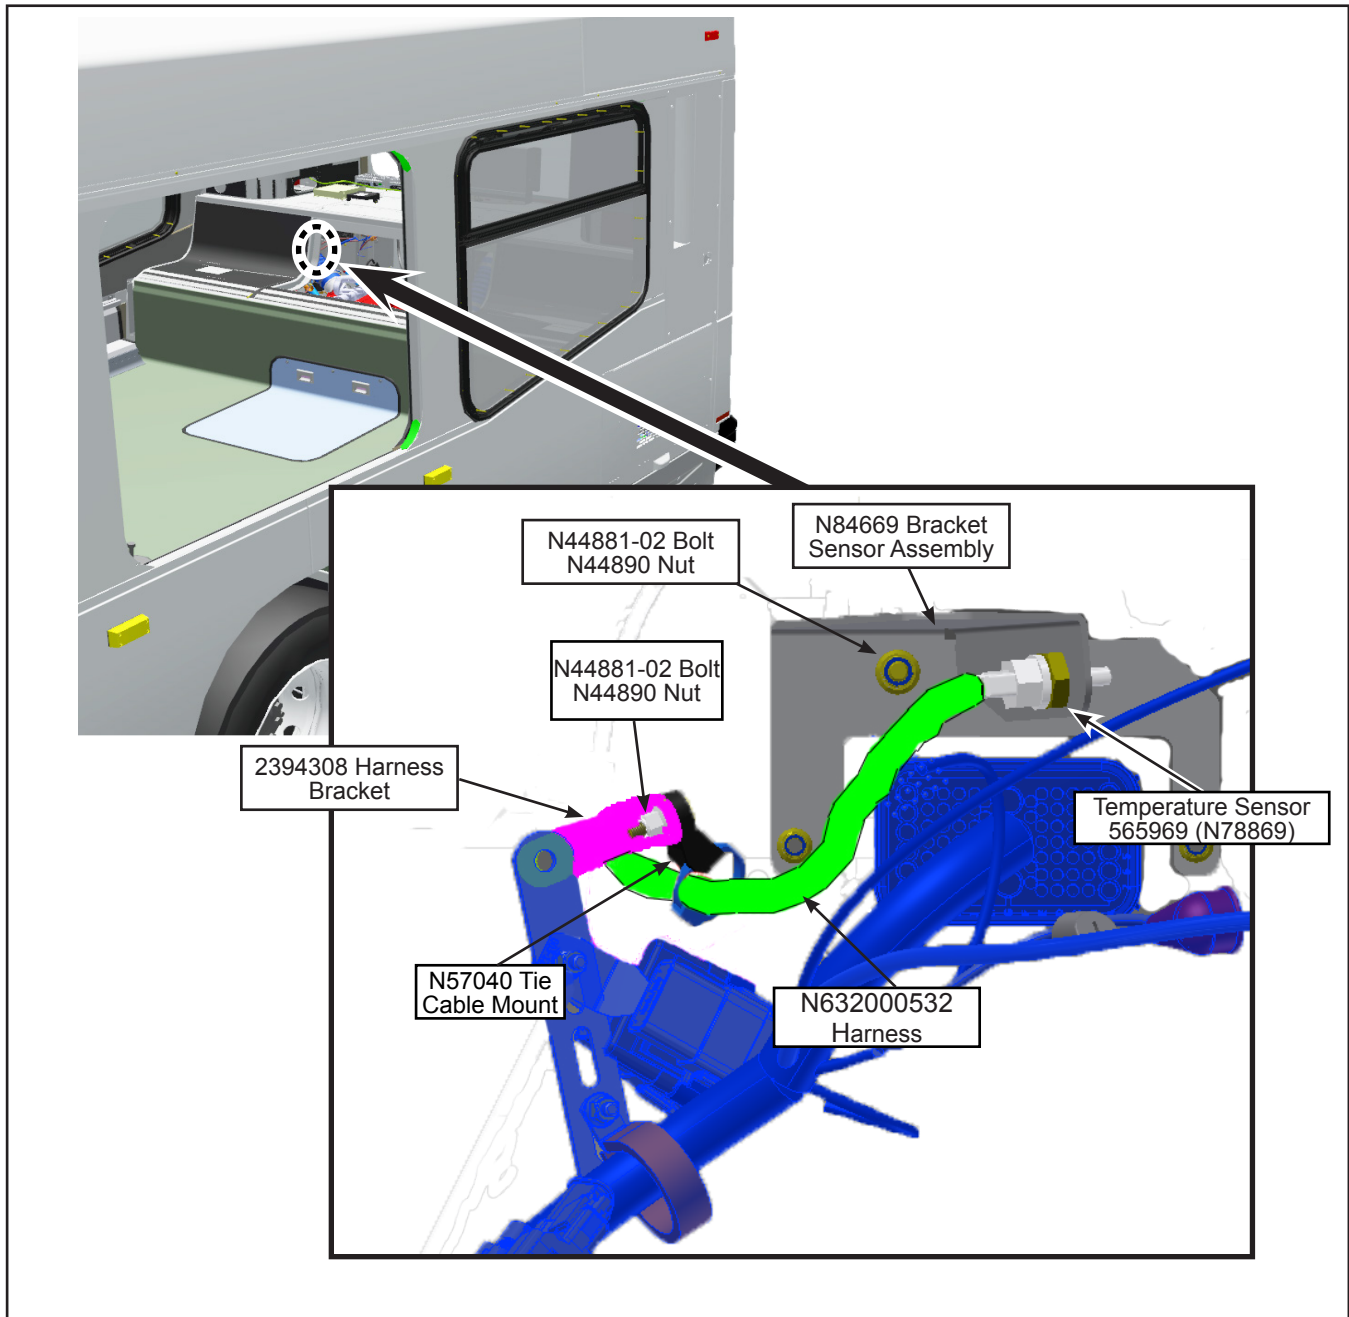

Figure 17 - Install and Connect Temperature Sensor
- 1.30. Install the tie cable mount N57040 onto the harness bracket 2394308 with an N44881-02 bolt and N44890 nut (see Figure 17).
- 1.31. Use the rear seat hatch to access the engine compartment. Install harness bracket 2394308 with existing hardware (see Figure 17).
- 1.33. Install the sensor (see Figure 17).